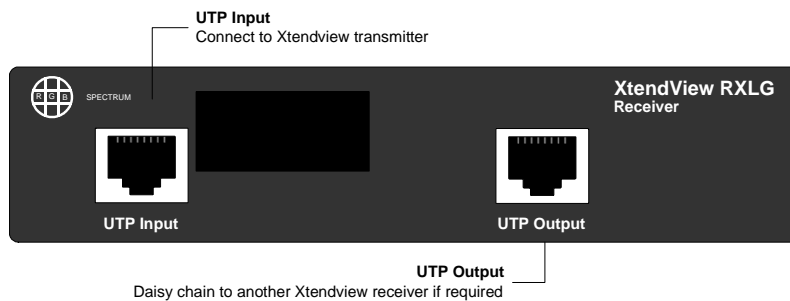

Figure 3-1. *XtendView* RXLG and RXLV Front Panel Connections
1. Connect UTP cable from the *XtendView* TX transmitter UTP output to the *XtendView* TRX receiver UTP input (Figure 3-1).
3. Connect a 3.5 mm stereo jack plug to the Aux IO connector and connect to the line level input of your destination device (Figure 3-1).